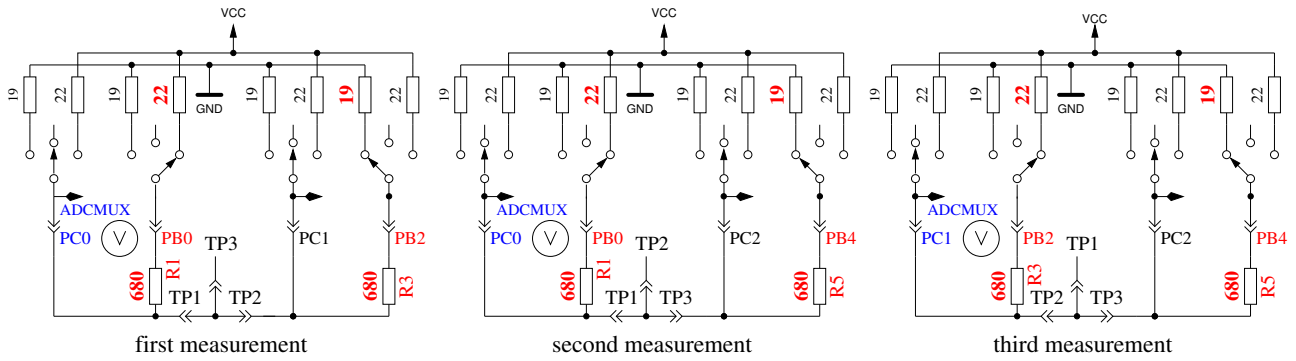

Figure 5.61. Comparison of 680Ω resistors
2. **Comparing of the 680Ω resistors.** In row 1 the cryptic text “+RL- 12 13 23” is shown. Meaning of this is as follows: The RL is the short form of Resistor Low meaning the 680Ω resistors. The 12 stand for: resistor at pin 1 is connected to VCC (+) and resistor at pin 2 is connected to GND (-). The result of this measurement is displayed in row 2 at the first place as difference to the theoretical value. In row 1 follows now a “13” which means, that the first connection of measurement 1 is still connected with 680Ω to VCC but that the resistor of pin 3 is connected to GND. The result is displayed in the middle place of row 2 as difference to the theoretical value. The last measurement of this test “23.” means that now the resistor at pin 2 is connected to VCC (+) and the resistor of pin 3 is connected to GND. The result of measurement is displayed at the last place of LCR row 2 as difference to the theoretical value. Please remember, that the resolution of the ADC is about 4.88mV! The measurement situation is also shown in figure 5.61. The theoretical value with respect to the internal resistance of the pins should be: